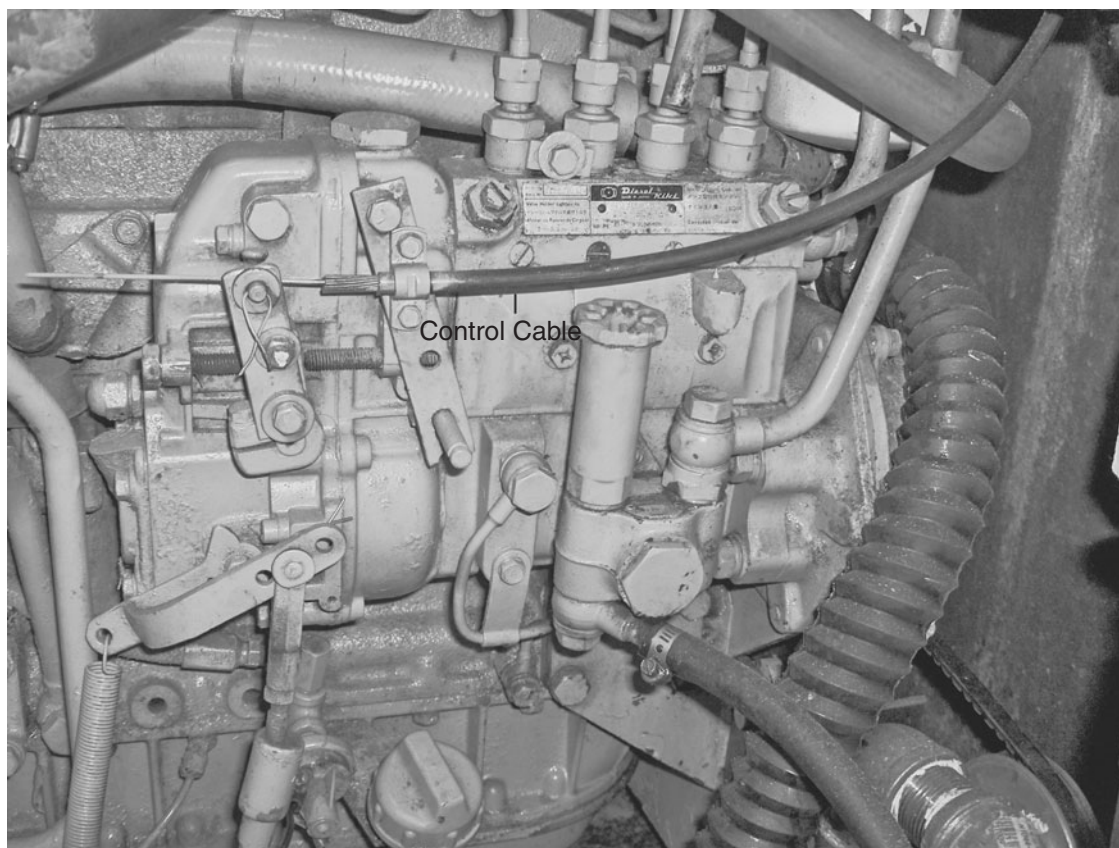

Fig. 15-2. Inspect the throttle control cable for signs of wear.
2. Check the condition of control cables, if so equipped. Cables (Fig. 15-2) that have chafed through will rust and lose their internal lubrication.